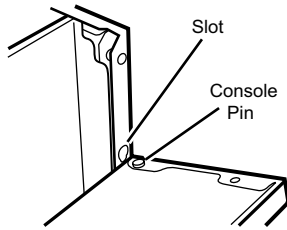

Figure 7. Slide console pins up and out of slots
- Slide the console so that the console pins located at the bottom corners of the console move up and out from the slots, removing the console from the front of the machine. See Figure 7.